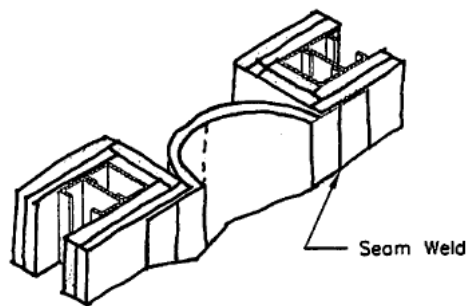

Fig. B1
1. After completing material preparation described on page 1 and as shown in Fig. A, place the fire barrier in the expansion joint. The foil flanges can be entirely on the exposed surface of the wall for the surface mount galvanized flange. (Fig. B1) With the Low Profile galvanized flanges, the foil flanges can be inside the joint cavity so that no part of the barrier is on the exposed surface of the wall. (Fig. C1)